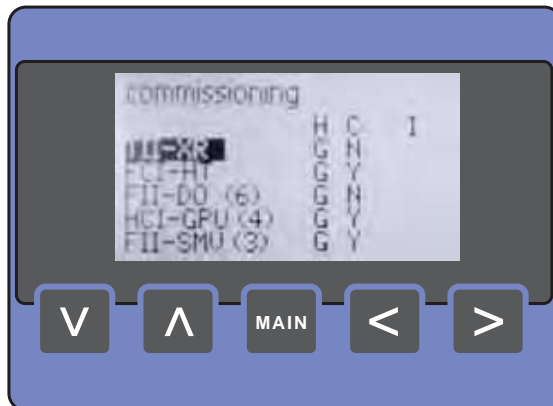

FIGURE 4-13
- The [\[commissioning\]](#) menu starts with the [\[board list\]](#) screen (see FIGURE 4-13).